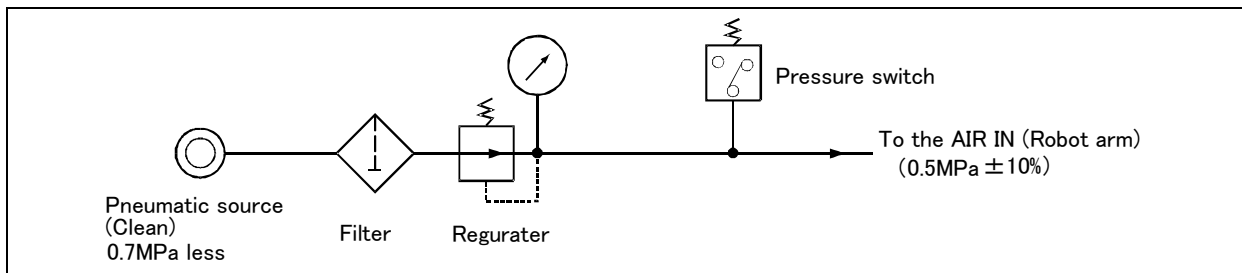

Fig.2-10 : Air supply circuit example for the hand
Fig. 2-10 shows an example of pneumatic supply circuitry for the hand.
- (1) Place diodes parallel to the solenoid coil.
- (2) When the factory pneumatic pressure drops, as a result of the hand clamp strength weakening, there can be damage to the work. To prevent it, install a pressure switch to the source of the air as shown in Fig. 2-10 and use the circuit described so that the robot stops when pressure drops. Use a hand with a spring-pressure clamp, or a mechanical lock-type hand, that can be used in cases where the pressure switch becomes damaged.
- (3) The optional hand and solenoid valve are of an oilless type. If they are used, don't use any lubricator.
- (4) Supply clean air to the vacuum generation valve when you use clean type robot.
- (5) If the air supply temperature (primary piping) used for the tool etc. is lower than ambient air temperature, the dew condensation may occur on the coupling or the hose surface.